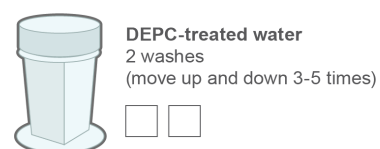

Figure 15: DEPC-treated water wash
13. Move slides up and down 3-5 times to wash and **repeat with a new jar of DEPC-treated water** (Figure 15).